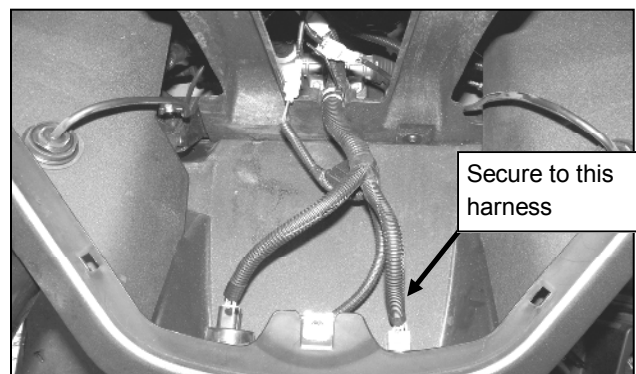

Fig. 4.3 (Secure Relay Harness)
- 4.3 Zip tie relay harness 9SV-WH-00074 (located in the alternator kit) to wire harness for the fuel gauge under the cup holders. Shown in figure 4.3.